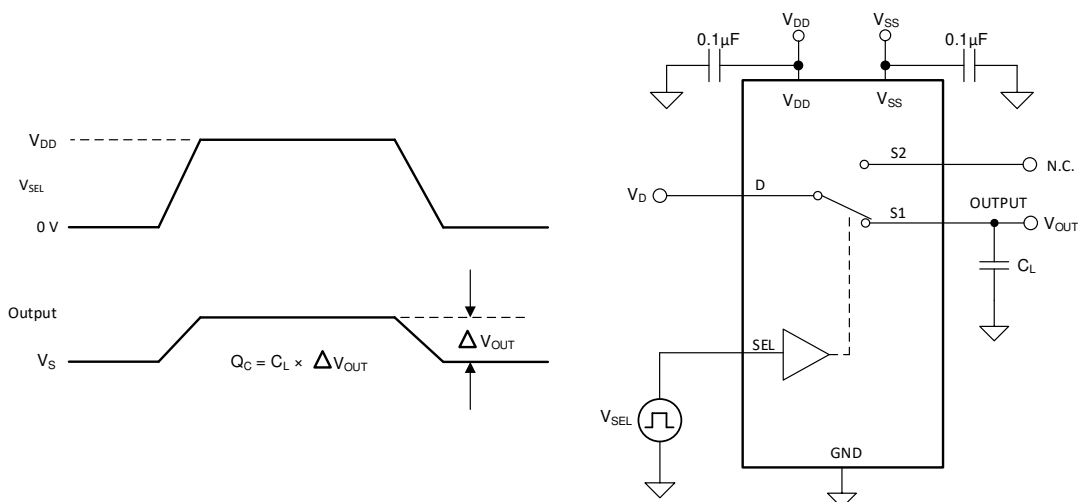

Figure 6-6. Charge-Injection Measurement Setup
The TMUX1219-Q1 has a transmission-gate topology. Any mismatch in capacitance between the NMOS and PMOS transistors results in a charge injected into the drain or source during the falling or rising edge of the gate signal. The amount of charge injected into the source or drain of the device is known as charge injection, and is denoted by the symbol Q_C . Figure 6-6 shows the setup used to measure charge injection from Drain (D) to Source (S_x).